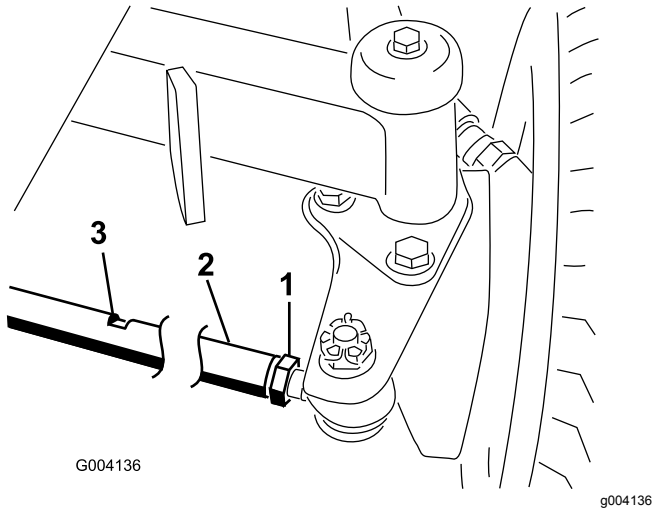

Figure 93
2. Loosen the jam nut on each end of the tie rod (Figure 93).